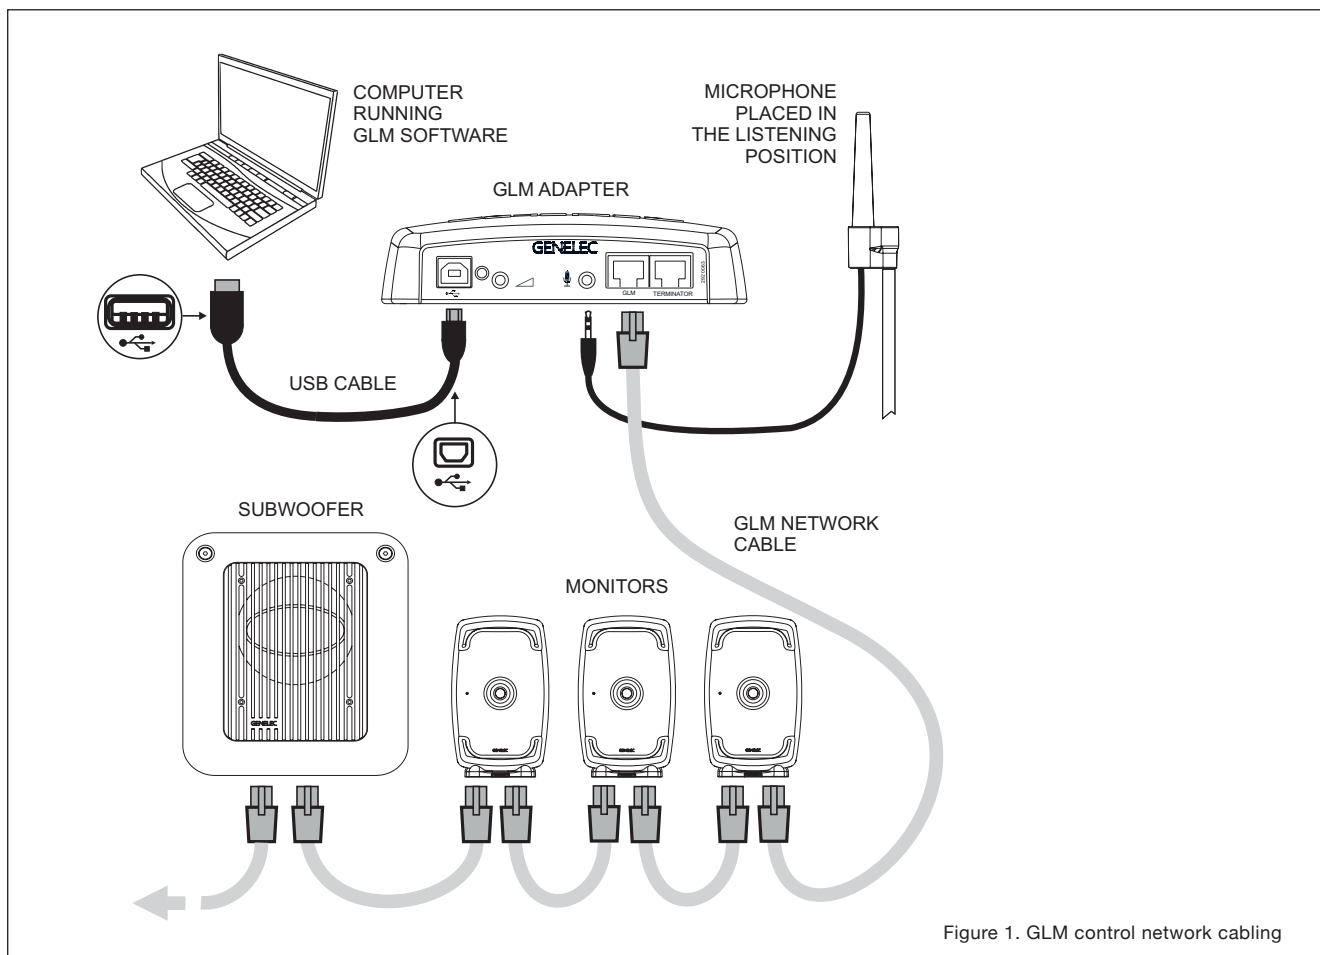

Figure 1. GLM control network cabling
1. Connect a CAT5 (RJ45) cable to each monitor (and subwoofer) and finally to the GLM Adapter device (see Figure 1).